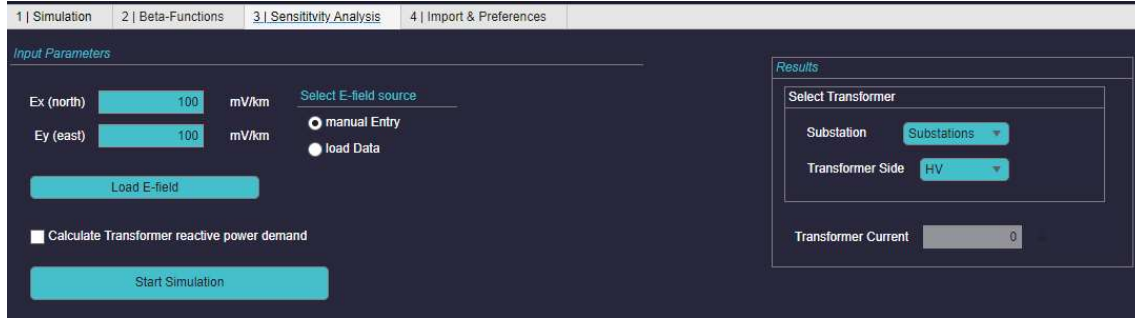

Figure 12: Sensitivity Analysis
*Simulation*, results are shown on the right side of the simulator as shown in Figure 12. Substation and voltage level can be chosen arbitrarily. The results are saved at the path selected in tab 1.